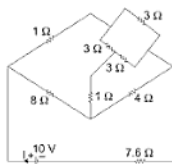

Fig. A1-2
- (a) With the help of star/delta transformation, obtain the value of current supplied by the battery in the circuit shown in Fig. A1-2.